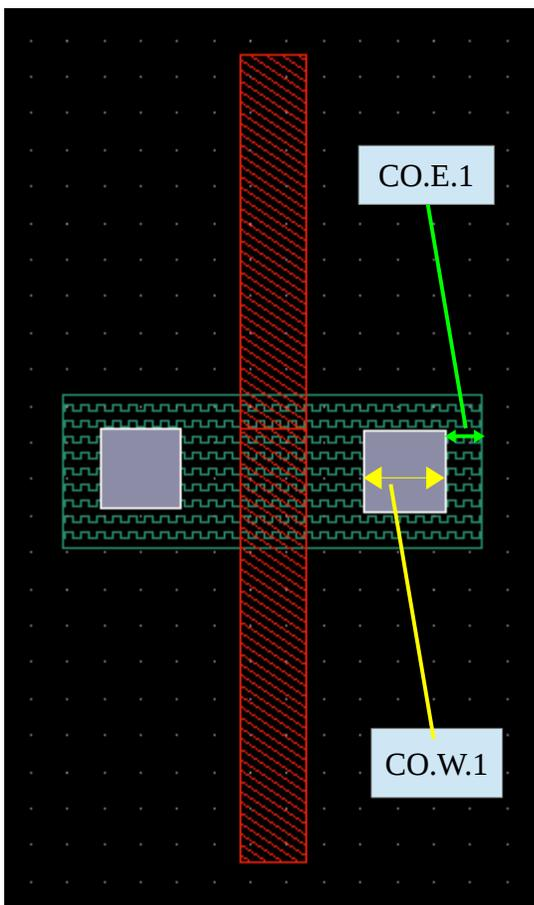

Fig. 3: Create the poly1, active, and contact layers.
3. Select the “active dwg” layer; draw a rectangle with $X = 1.14\ \mu\text{m}$ and $Y = 0.42\ \mu\text{m}$ as shown in Figure 3.
5. On page 28, find the minimum clearance between active (OD) and contact (CO) (**CO.E.1**), place the contacts as shown in the Figure 3.
10. Select the “**pplus dwg**” layer and draw a rectangle as illustrated in Figure 3. Run DRC and confirm that **PP.E.2** is not violated.